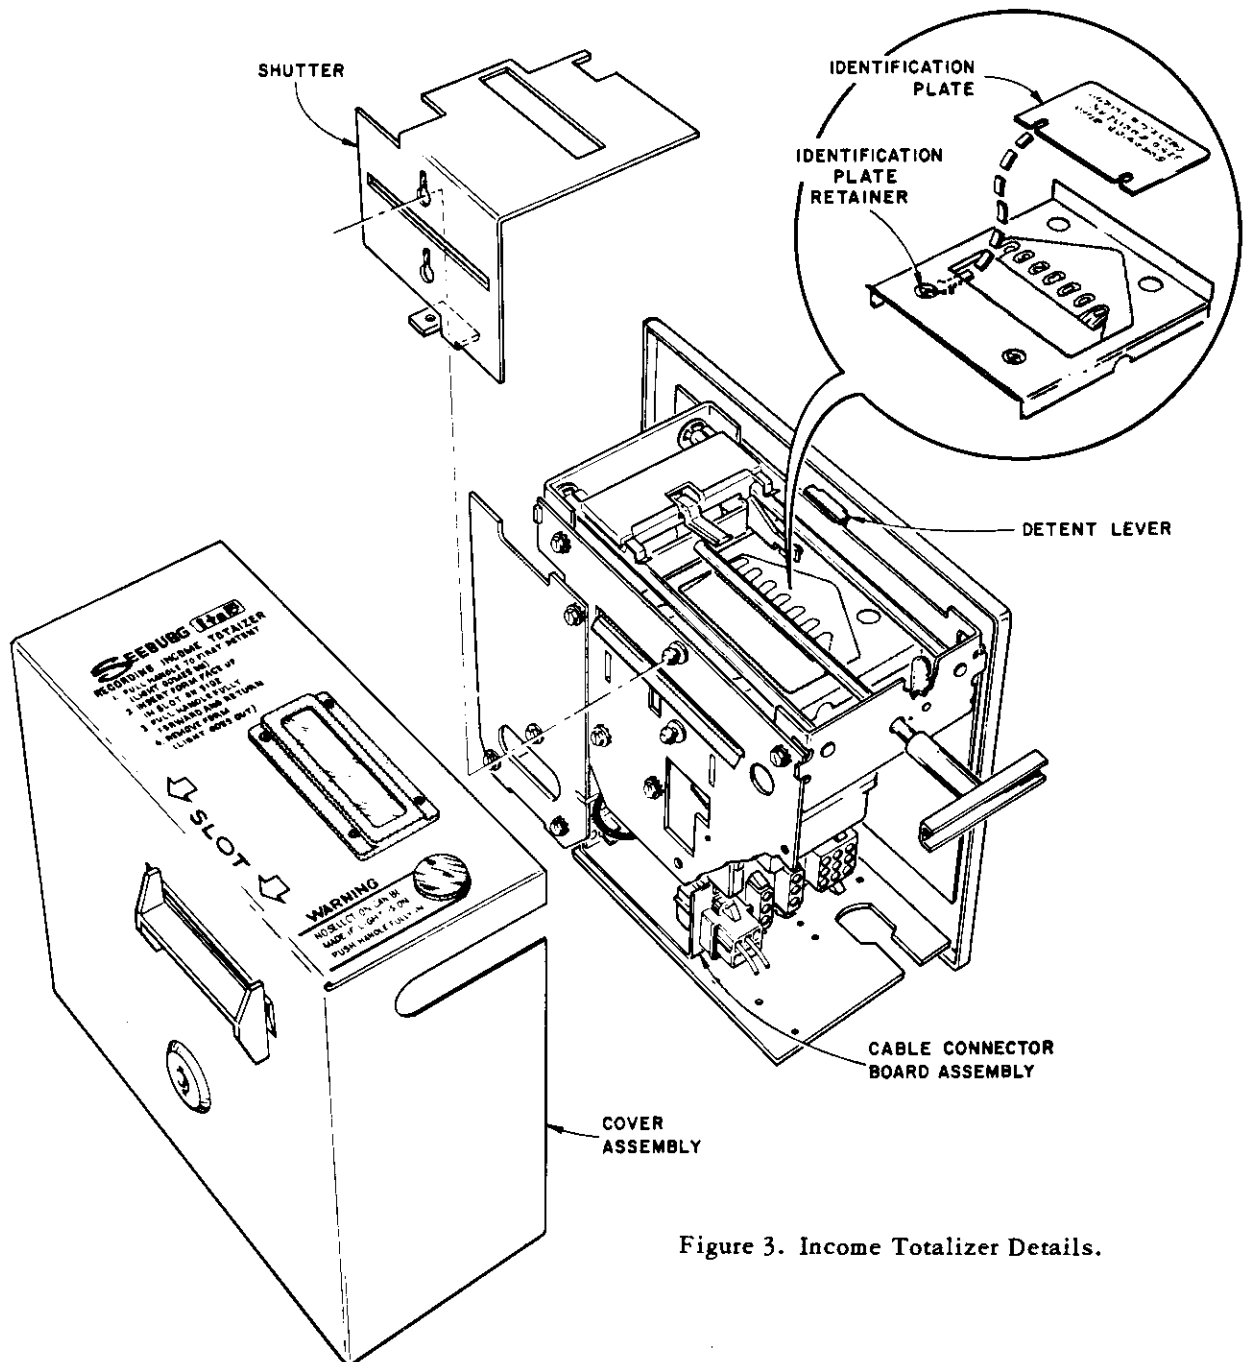

Figure 3. Income Totalizer Details.
- a. Using the key furnished with the totalizer, unlock and remove the cover. Refer to Figure 3.
- c. Remove the identification plate or insert it securely in place as shown in the inset of Figure 3.